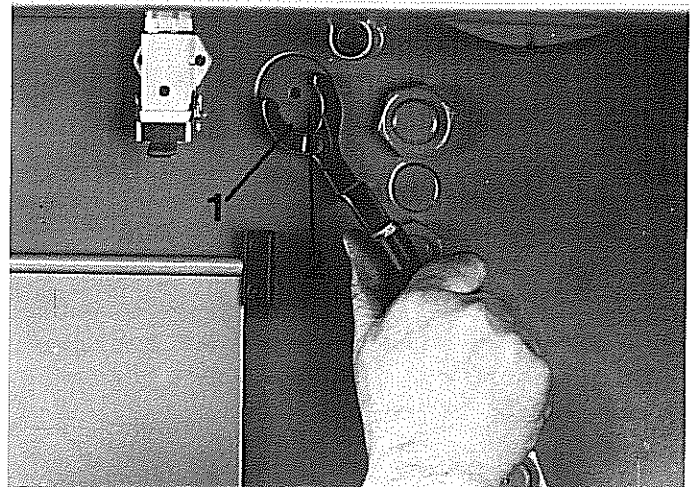

Fig. 27: Adjusting the slide guide at right angles to the machine
b) Adjustment at right angles to the machine (Fig. 27): Loosen the locking screws 1 (two each are fitted at the upper and lower discharge side of the machine). Use an adjustable face spanner to turn the sliding plugs 2 clockwise until you clearly feel a resistance. Then loosen the sliding plugs 2 again slightly by turning them anticlockwise by about 1/16 of a revolution. Drill a 4.5 mm bore into the sliding plugs and screw in locking screws 1.